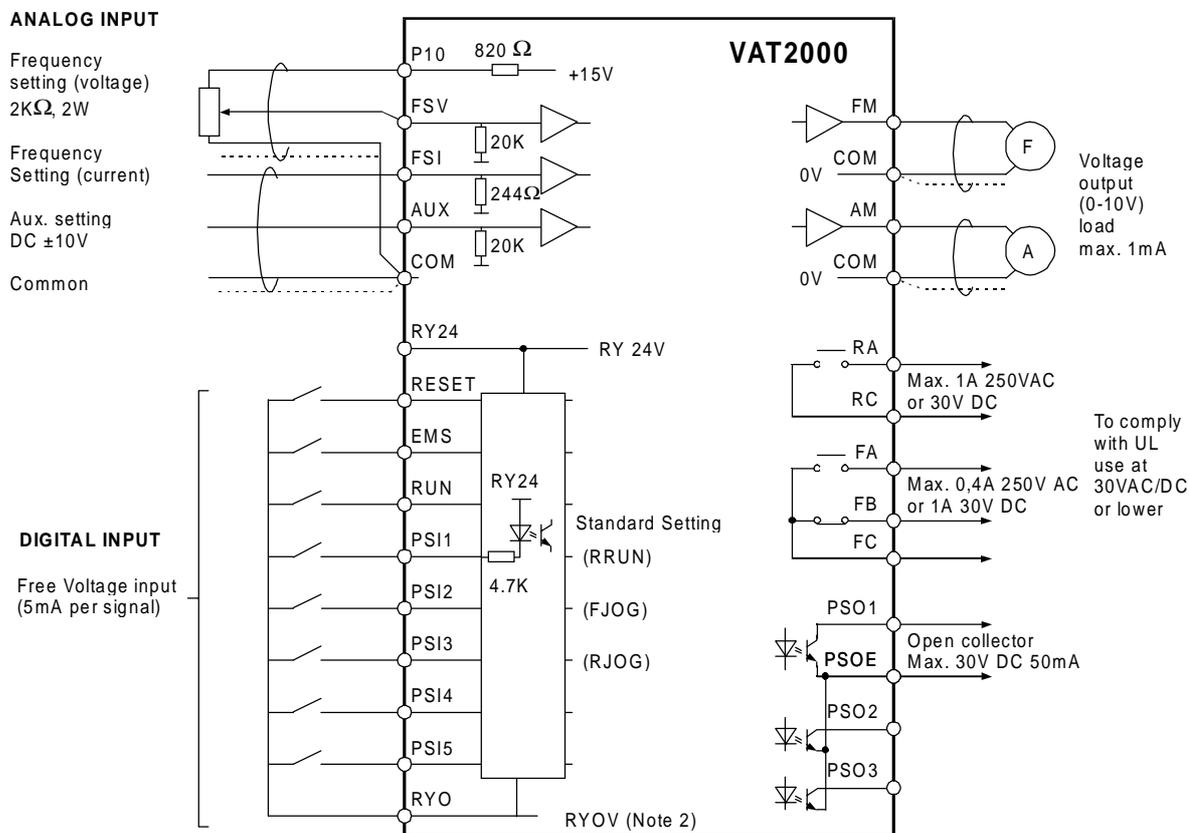

Fig. 2-6
- 3) Use a twisted pair wire or twisted pair shield wire for wiring the analog signals (as the setters and meter). (Fig. 2-6.) Connect the shield wire to the TB2 COM terminal of the VAT2000. The wire length must be 30m or less.
- 8) An example of the control circuit wiring is given in Fig. 2-6.